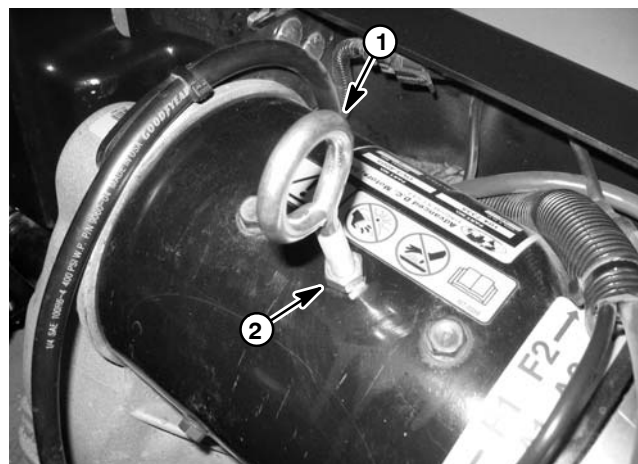

Figure 54
- A. Remove silver flange head screw from top of motor and carefully install a 3/8 – 16 eyebolt into motor (Fig. 54). Thread eyebolt into motor approximately four (4) turns taking care to not bottom eyebolt into internal field coils. Secure eyebolt with jam nut. Use eyebolt for support and as a lifting point for motor removal.
7. Remove six (6) socket head screws (item 1) and flat washers (item 2) that secure motor to transaxle.
10. If needed, remove two (2) roll pins from motor shaft.